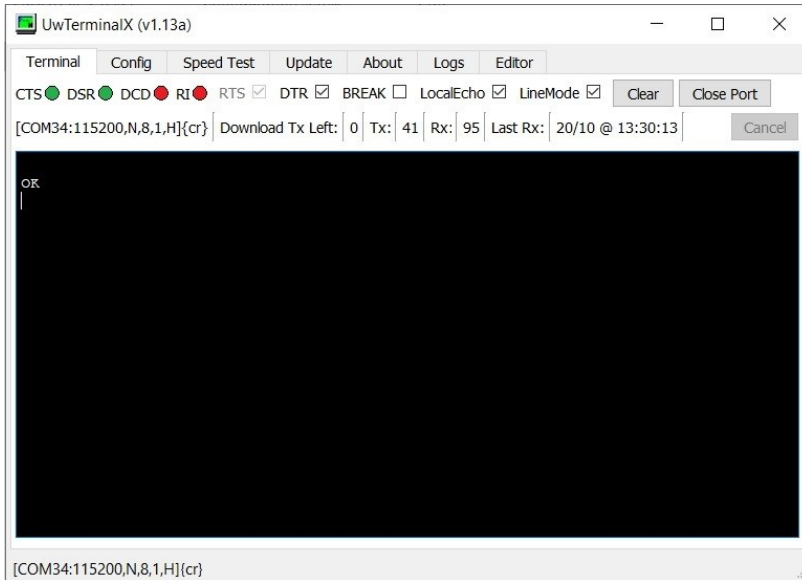

Figure 3: Press return key, response *ok*
5. Press **Return**. For modules where low power UART operation is disabled, a response of *OK* will be displayed as shown in Figure 3.